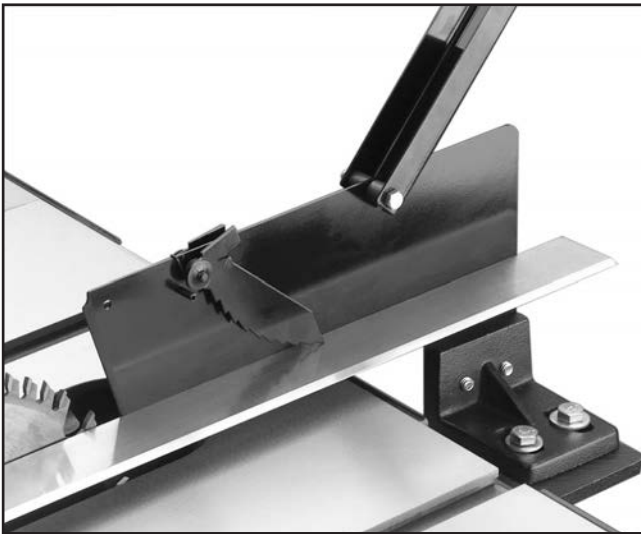

Figure 18. Guard in line with blade.
3. Next, set a straightedge against the face of the saw blade and the blade splitter as shown in **Figure 18**. If the blade splitter is properly aligned, please skip ahead to the "Table Insert" instructions; otherwise, continue with the next step.